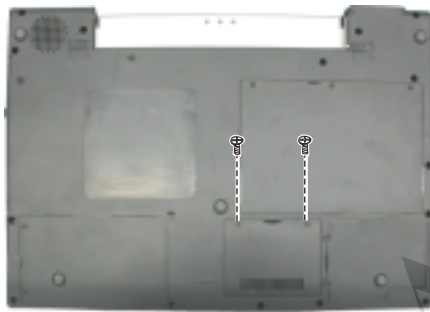

Figure 2-15 Remove the cover
2. Remove two screws fastening the DDR compartment cover to access the SO-DIMM socket. (Figure 2-15)